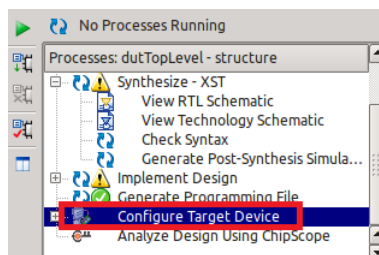

Figure 4.11:
8. Program the DUT using Xilinx Impact. In the Processes window, click Configure Target Device (See Fig 4.11).